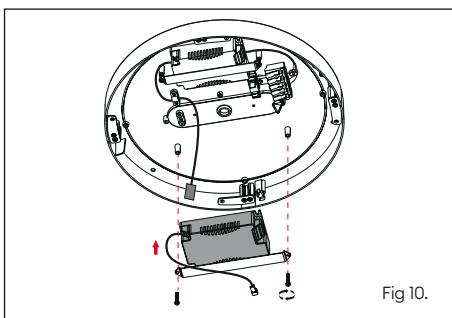

Fig 10.
3. Secure driver to base section by placing under the spare driver bracket and fixing the bracket into place using the screw removed in stage 1. Ensure driver is secure by checking both bracket screws (fig 10).